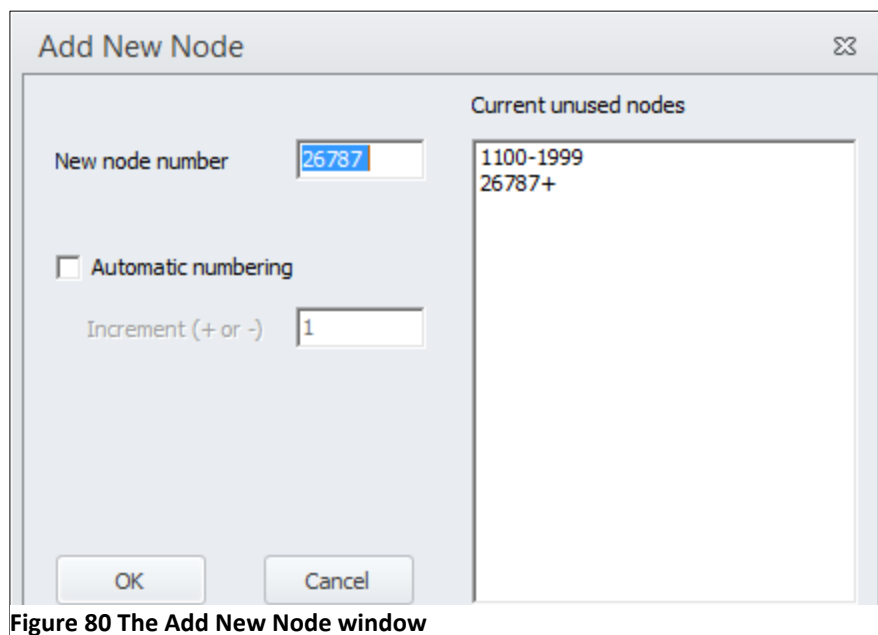

Figure 80 The Add New Node window
- 10) Click "Yes" and then select a node value greater than 2000 (values up to 1999 are only for terminals and zones), see Figure 80